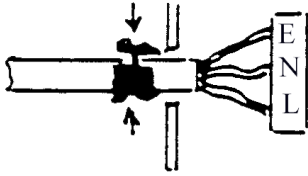

Figure 12
hold on the clip & the cable will be securely held (look how the one holding the temperature sensor cable is fitted – this is the thin brown cable which is already wired) – as shown in figure 12.
(vii) Bolt the bracket & box to the lower fin of the lighting hood hinge support (HD) – as shown in figure 12.